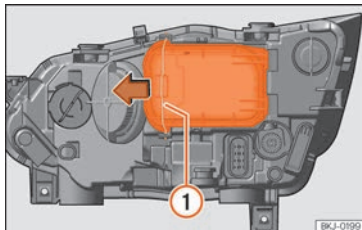

Fig. 104 In the engine compartment: remove the lid.
- Move the loop » **Fig. 104** ① in the direction of the arrow and remove the cover.